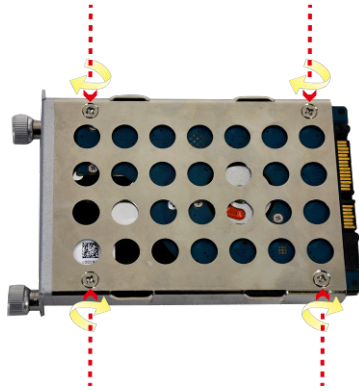

Figure 3-3: HDD Installation
Step 3: Place the hard drive into the hard drive bracket and secure the HDD bracket and secure the hard drive with four screws (**Figure 3-3**).